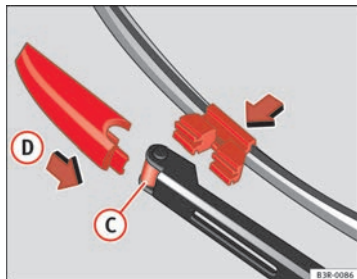

Fig. 184 Fitting the wiper blade
- Fit the new wiper blade into the mounting on the wiper arm $\Rightarrow$ fig. 184 **C**.